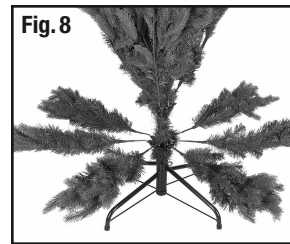

Fig. 8
2. Release the tie wrap holding the branches together and let the branches fall into their lowered positions (Figure 8). Begin shaping process (see **Branch Shaping**).